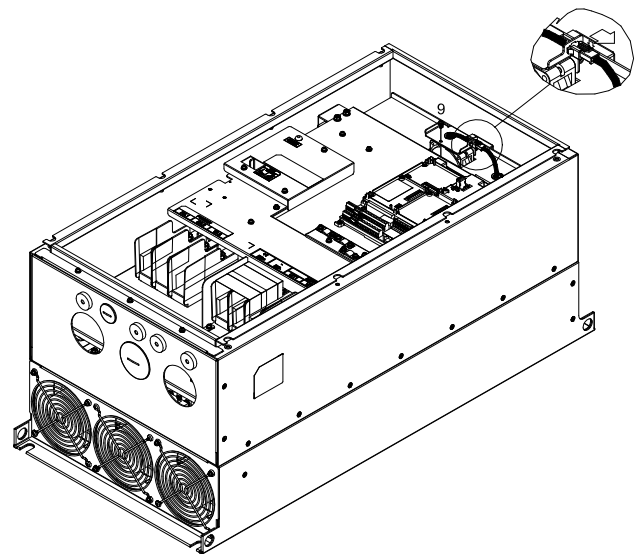

Figure 7-73
3. Loosen the screw 9 then remove the fan kit. (Refer to Figure 7-73)